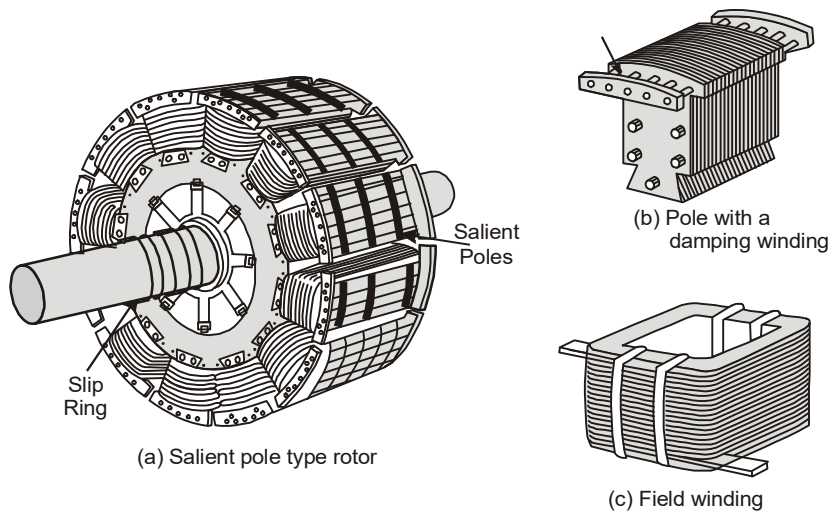

Fig. 4.70: Parts of an alternator
- Spider** : Spider is made of cast iron to provide an easy path for the magnetic flux. It is keyed to the shaft and at the outer surface, pole core and pole-shoe are keyed to it (see fig. 4.70).
- Pole core and pole shoe** : It is made of laminated sheet material [see fig 4.70 (b)]. Pole core provides least reluctance path for the magnetic field and pole shoe distributes the field over the whole periphery uniformly to produce sinusoidal wave form of the generated *e.m.f.*
- Field winding or Exciting winding** : Field winding is wound on the former [see fig. 4.70 (c)] and then placed around the pole core. D.C. supply is given to it through slip rings. When direct current flows through the field winding, it produces the required magnetic field.